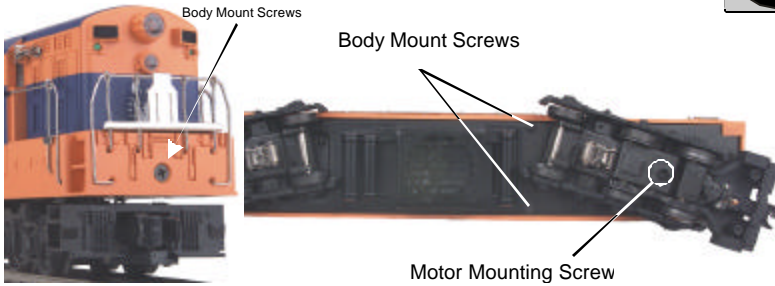
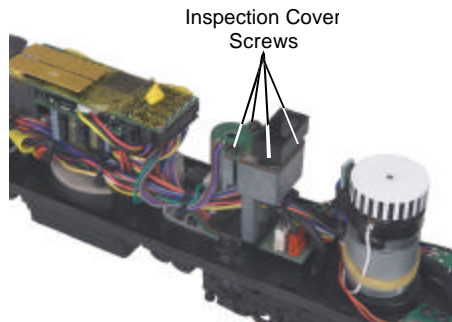

Figure 5: Body Removal Screw Locations
Figure 11 : Smoke Unit Inspection
1. To access the gear box, remove the cab from the chassis by unscrewing the chassis screws as seen in Figure 5 and lifting the cab from the chassis.
2. Once the cab is removed, remove the trucks by unscrewing the black Phillips motor mount screw located on the underside of the drive trucks (see Fig. 5).
First, remove the trucks from the chassis by unscrewing the body mounting screws as noted in Figure 5. Next, remove the trucks from the chassis by unscrewing the truck mounting screw also noted in Figure 5. Finally, turn the removed truck over and locate and remove the truckside screws to gain access to the drive wheel traction tires behind the trucksides.
If you experience poor or no smoke output when the smoke unit is on and has fluid, check the wick to see if it has become hard, blackened, and unabsorbent around the heating element. After removing the locomotive body from its chassis (See Figure 5), remove the smoke unit inspection cover (see Fig. 11). After removing the inspection cover screws, lift the inspection plate away and inspect the wick. If it is darkly discolored and hard, it should be replaced.